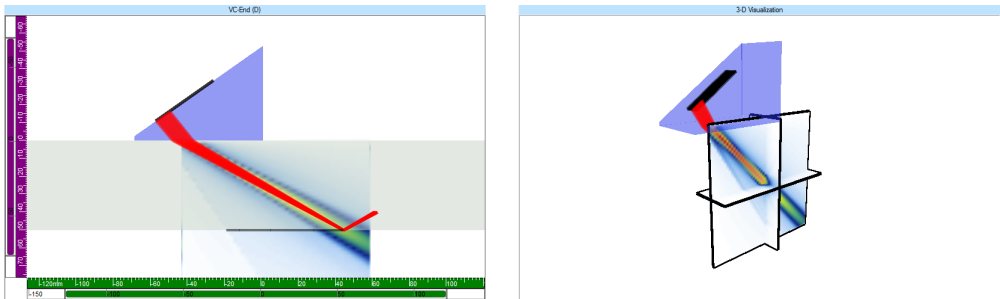

Figure 9-2 Example of 2-D and 3-D simulation visualizations
4. When the simulation calculation is complete, use the view selection buttons to visualize the simulation results in various 2-D and 3-D (see Figure 9-2 on page 131).